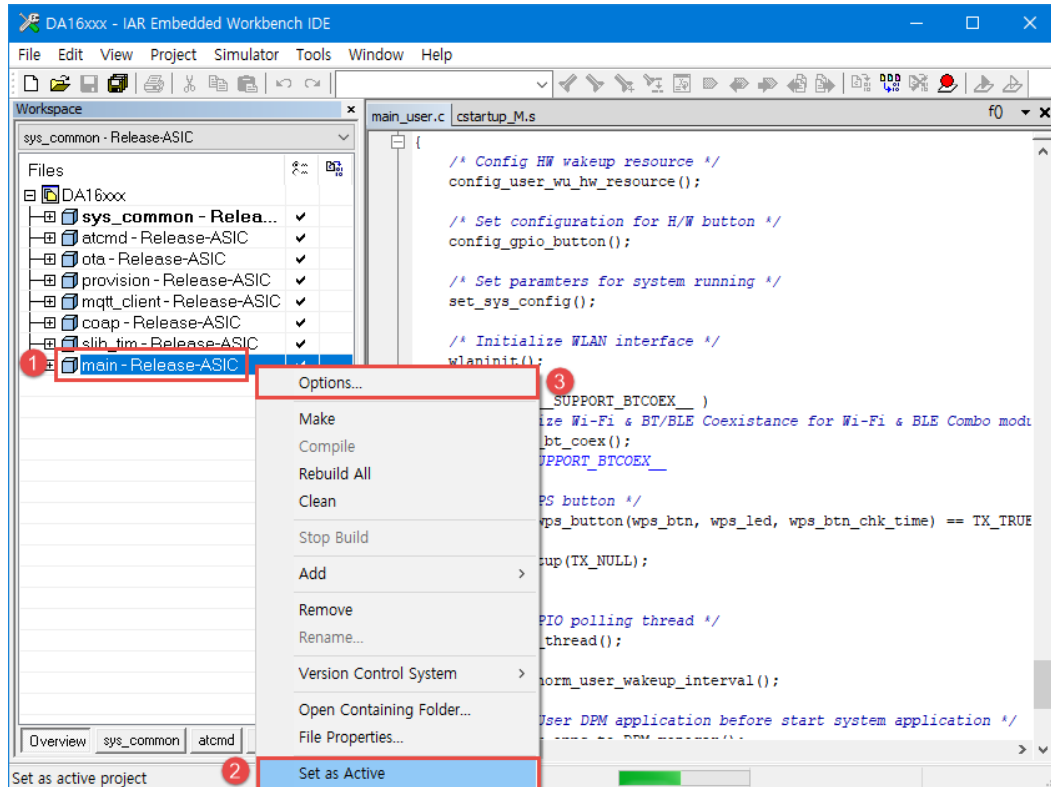

Figure 28: Select Debugger Option
- a. In the **IAR Embedded Workbench IDE** window, right-click **main – Release-ASIC** (1) and click **Set as Active** (2), and then click **Options** (3) See Figure 28.